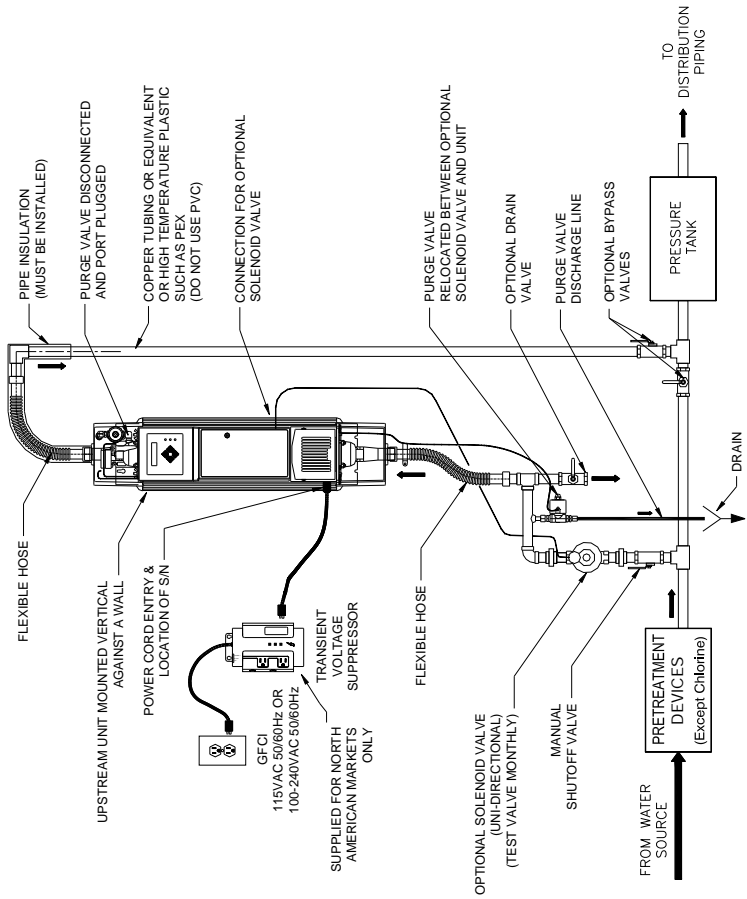

Figure 1C
Step 6: Connect the purge valve to a drain using the flexible tubing provided. Cut the end of tubing square and insert into the push-in fitting. The tubing can be run down the right hand side of the unit within the recess provided – the plastic cover may be removed to insert tube. The tubing should be secured to the wall or floor to prevent it from moving during purging cycle. If the pressure tank (water reservoir) is located downstream of the unit, the purge valve must be relocated. A Purge Valve Relocation Kit R500003 (sold separately) is required to have the water flow through the quartz. See Figure 1C